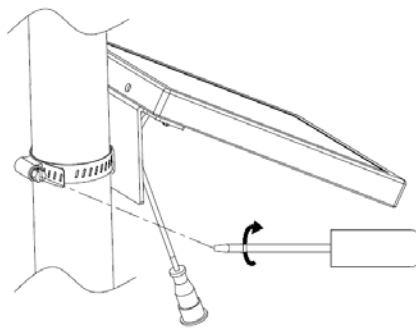

Figure 19
- c) Fix the loop on a mounting post and as shown in Figure 19. Make sure solar panel unit face sunlight.